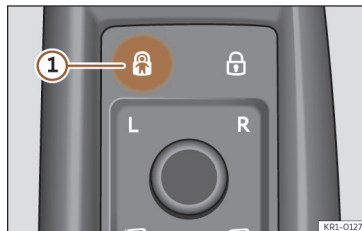

Fig. 76 On the driver's door: touch panel for the electric child lock.
- **Activation:** tap the touch panel >>> **Fig. 76** ①.
The indicator lamp  on the touch control lights up yellow when the electric child lock is activated >>> **Fig. 76** ①.